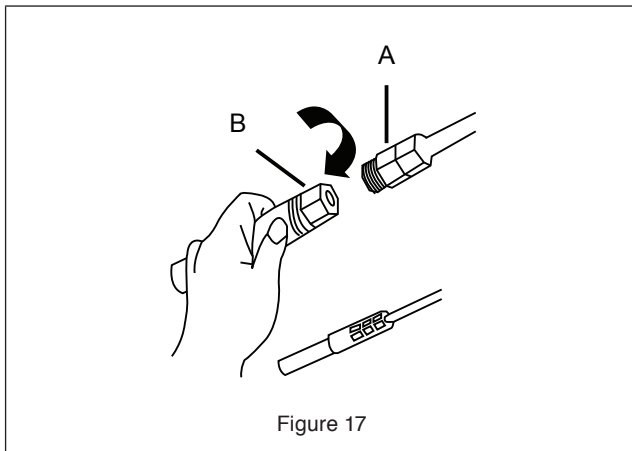

Figure 17
3. Connect the newly installed water supply line (B) to the refrigerator water inlet connector (A), tighten using tool. See Figure 17.